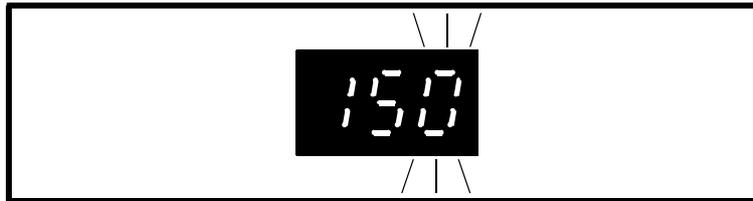

Figure 5-4 Display in Edit mode showing the value of a parameter
When the display is in Edit mode, it shows the value of the parameter. The least significant digit flashes, as shown in Figure 5-4. (The value shown is the default value for **0.06**; the value displayed may be different if the Drive has been used previously.)
- 2 The value shown in Figure 5-4 is the maximum value of **0.06**. In this case, the value can only be decreased. To decrease the value, momentarily press: